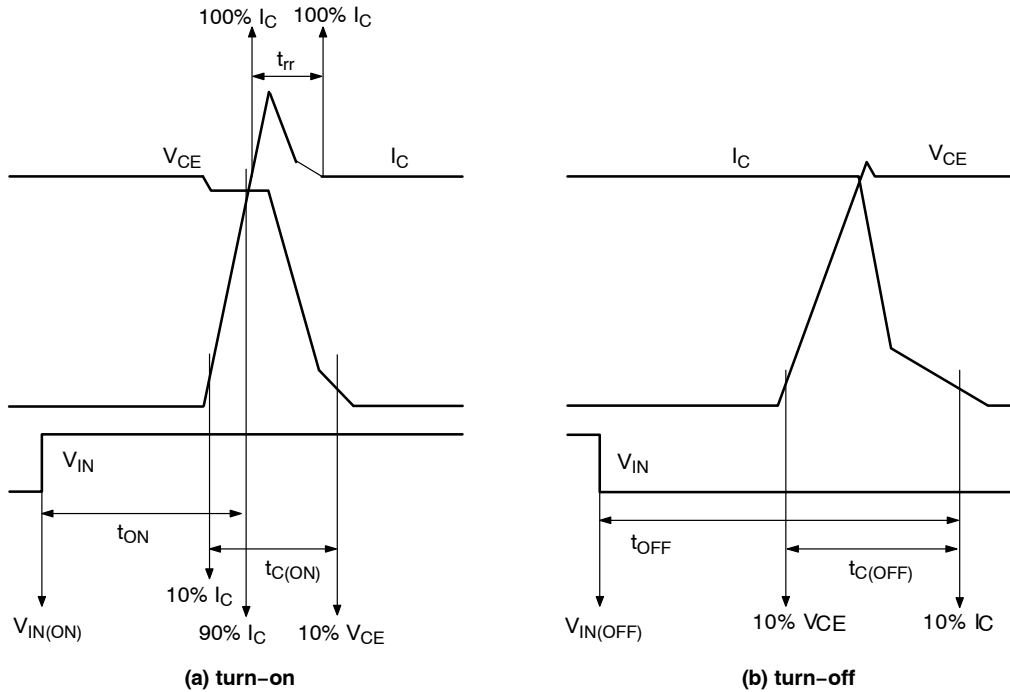

Figure 3. Switching Time Definition
6. t_{ON} and t_{OFF} include the propagation delay time of the internal drive IC. $t_{C(ON)}$ and $t_{C(OFF)}$ are the switching times of IGBT itself under the given gate driving condition internally. For the detailed information, please see Figure 3.